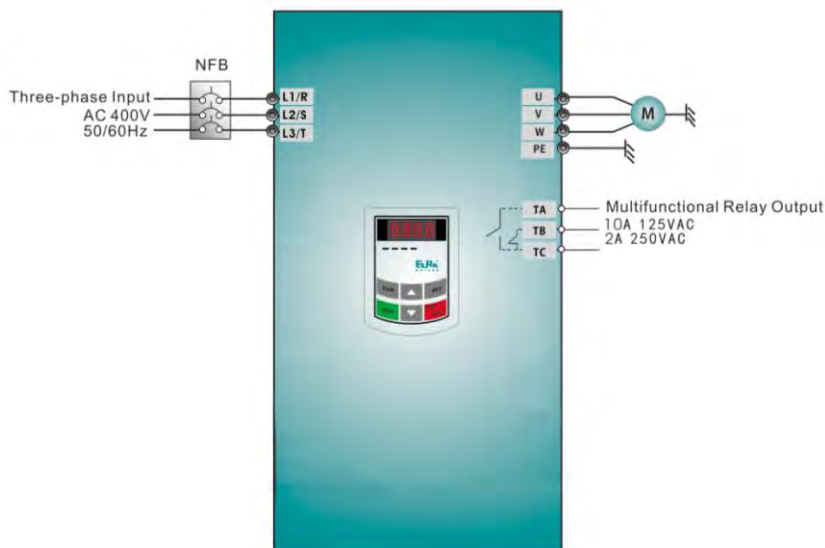

Figure 4-1 Wiring Diagram 1
- (1) Connect the wires in accordance with Figure 4-1. After having checked the wiring successfully, switch on the air switch, and power on the inverter.
- (2) Press the “Fun” key, to enter the programming menu.
- (3) Measure the parameters of the motor
- (1) Connect the wires in accordance with Figure 4-1. After having checked the wiring successfully, switch on the air switch, and power on the inverter;
- (2) Press the “Run” key, to enter the programming menu.
- (3) Study the parameters of the motor: the operation process is the same as that of example 1.
- (4) Set functional parameters of the inverter: